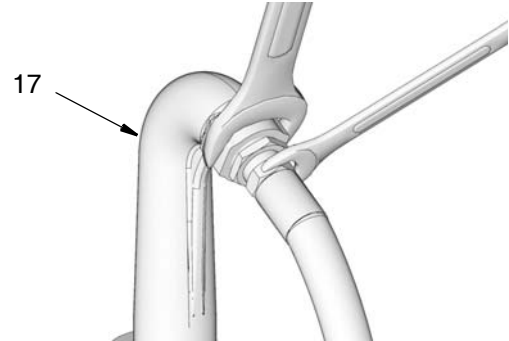

FIG. 78
3. Attach end of the hose to the outlet (17) using two wrenches on the flats, working in opposite directions, to securely tighten the hose to the outlet fitting (FIG. 78).